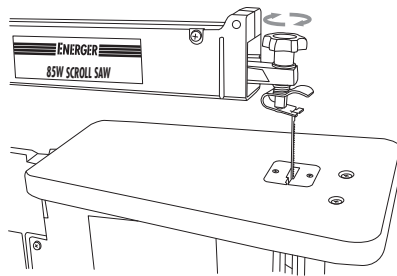

Fig. 16
- > Carefully tighten the blade tension by turning the tension knob clockwise just until the tension spring is fully compressed. (Fig. 16)